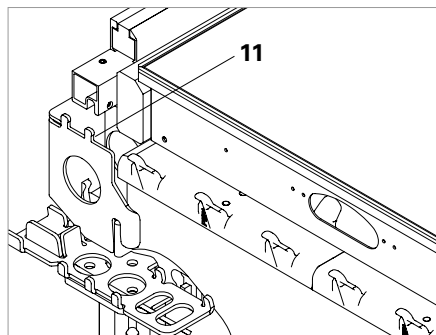

Fig. A5.14
- End Support SSL (11). (Fig. A5.14)
- when using the End Support, (Fig. A5.14)